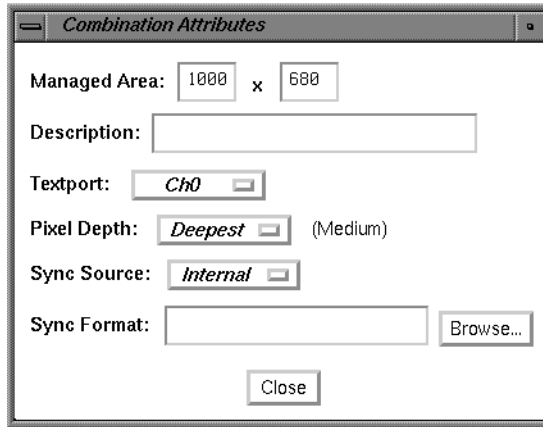

Figure 3-13 Combination Attributes Window Example
2. Change the Managed Area fields at the top of the Attributes window to read 1000 in the left hand box and 680 in the right hand box. See Figure 3-13 for an example of the Attributes window.